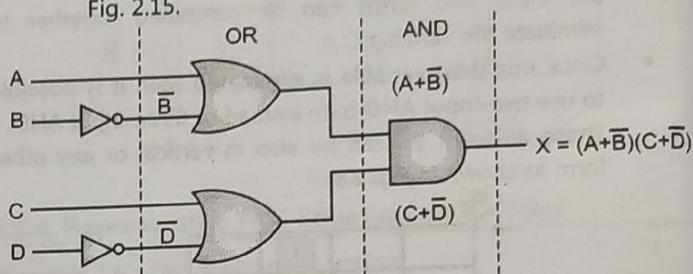

Fig. 2.15 : OR-AND logic
- This can be implemented in OR-AND as shown in Fig. 2.15.